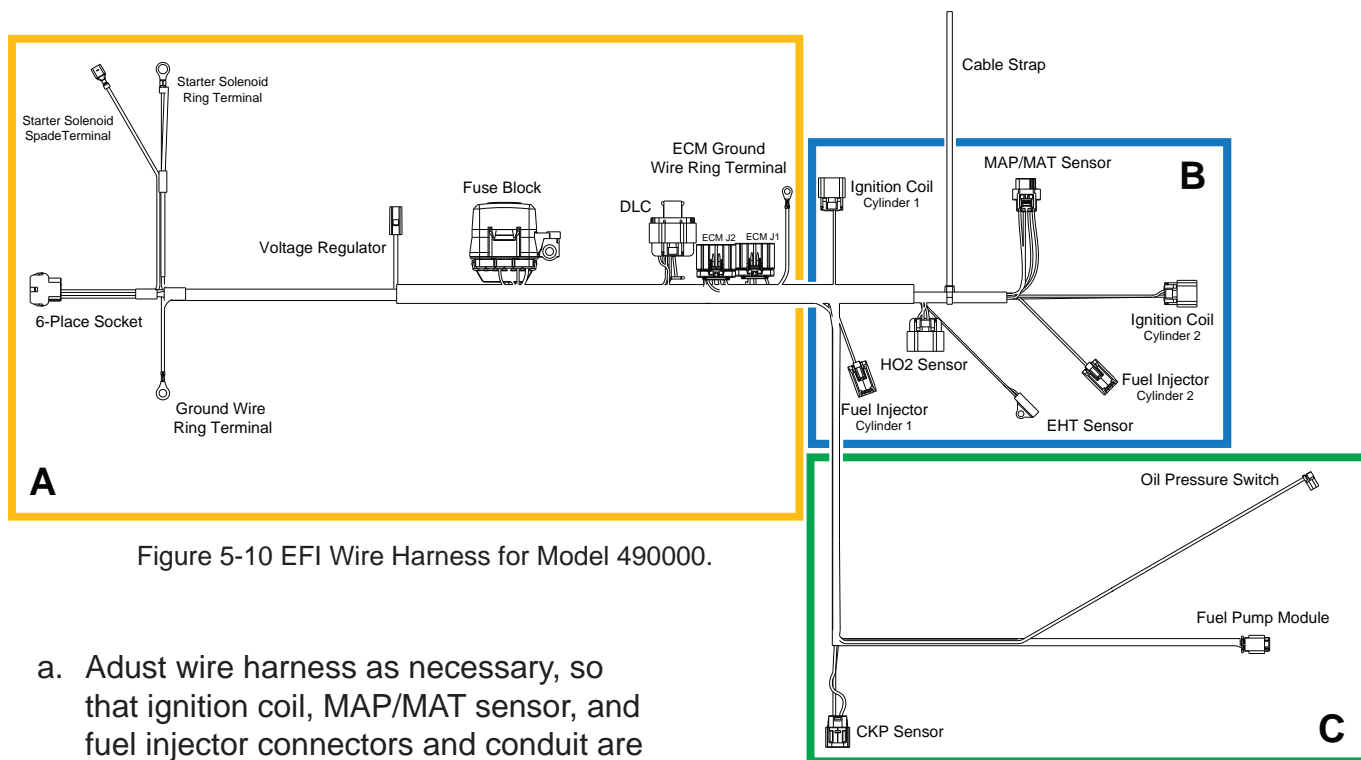

Figure 5-10 EFI Wire Harness for Model 490000.
4. See A of Figure 5-10. Proceed as follows:
5. See B of Figure 5-10. Proceed as follows:
6. See C of Figure 5-10. Proceed as follows:
1. Position **new** EFI wire harness on engine separating conduit and connectors into three groups as shown in Figure 5-10. Proceed as follows:
2. See C of Figure 5-10. Proceed as follows:
3. See B of Figure 5-10. Proceed as follows: